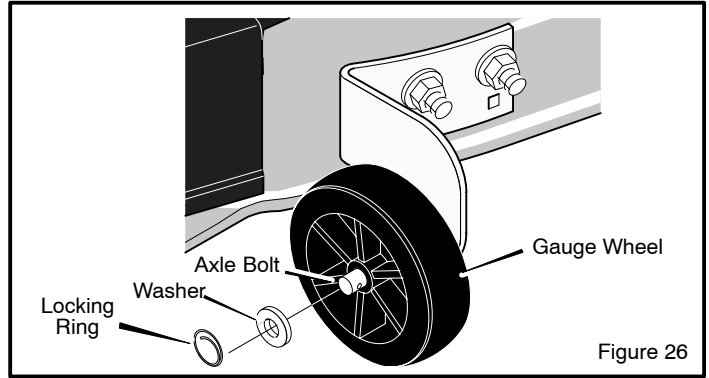

Figure 26
1. Remove the **gauge wheels** (Figure 26).